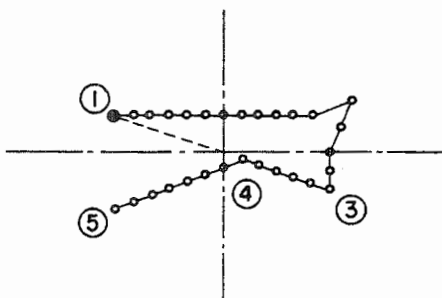

Fig. 7
Step 28 Move the needle using the  key or  key on the function selector section, and confirm that the needle entry point has been moved and the pattern after the moved point has moved as illustrated in Fig. 7.